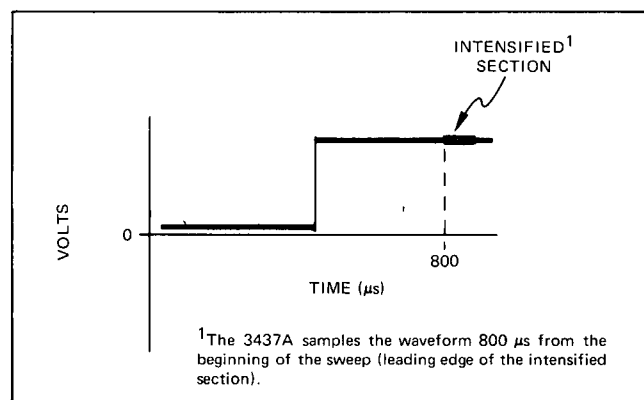

Figure 5-3. Intensified Waveform.
e. Adjust the 3310A output level, oscilloscope trigger and intensity levels, to obtain a display as illustrated in Figure 5-3.
c. Adjust the 3310A output level, oscilloscope trigger and intensity levels, to obtain a waveform as illustrated in Figure 5-3.
- Adjust the 3310A output level, oscilloscope trigger and intensity levels, to obtain a waveform as illustrated in Figure 5-3.